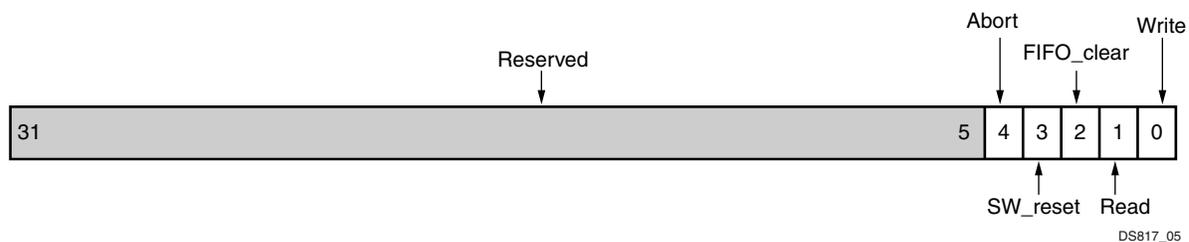

Figure 2-7: Control Register (CR)
The Control Register (CR) shown in Figure 2-7 is a 32-bit read/write register that determines the direction of the data transfer. It controls whether a configuration or readback takes place. Writing to this register initiates the transfer. The bit definitions for the register are shown in Table 2-11.